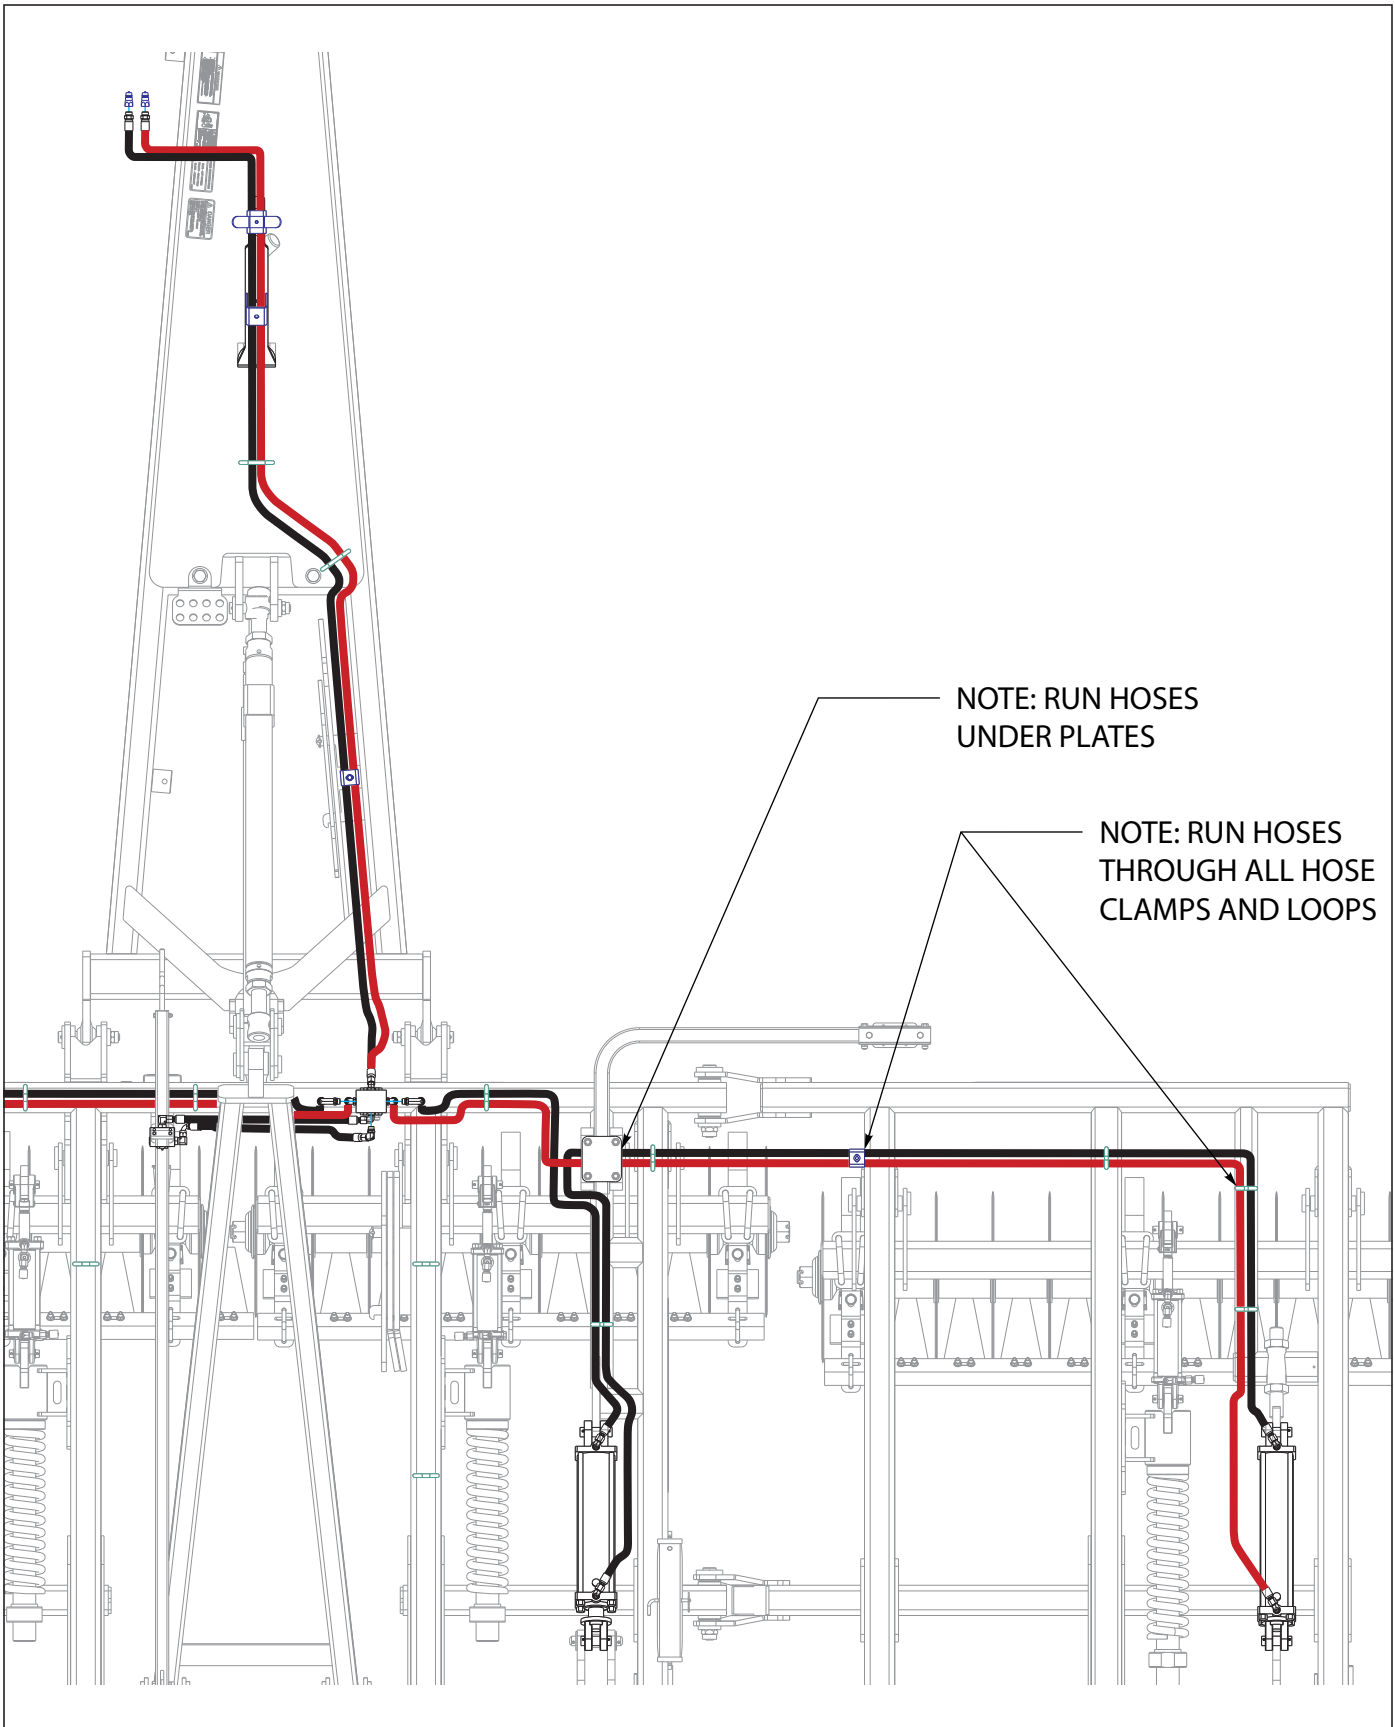

Figure 3-13: Lift Hydraulic Layout RH
1. See Figures 3-10 through See Figures 3-13 for lift hydraulic installation.